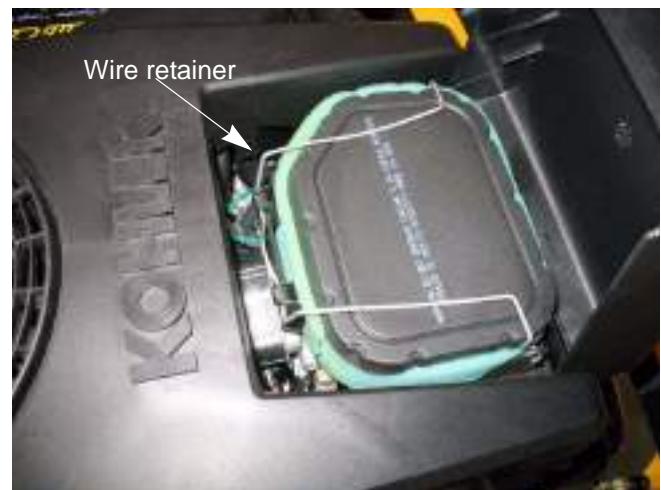

Figure 9.4
2. Lift up the wire retainer. See Figure 9.4.